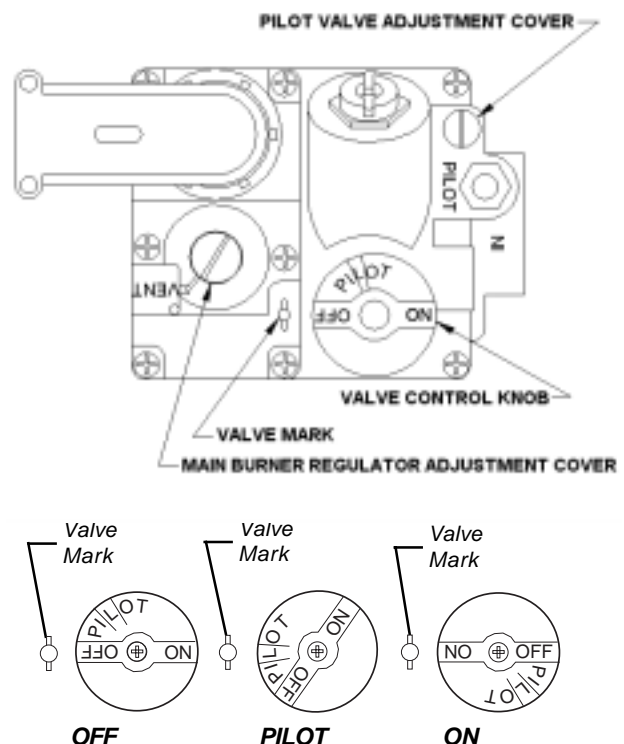

Figure 6. Gas Control Valve & Knob Positions
5. Turn the gas control valve knob to align the PILOT setting with the valve mark. Figure 6 shows the possible control knob positions.